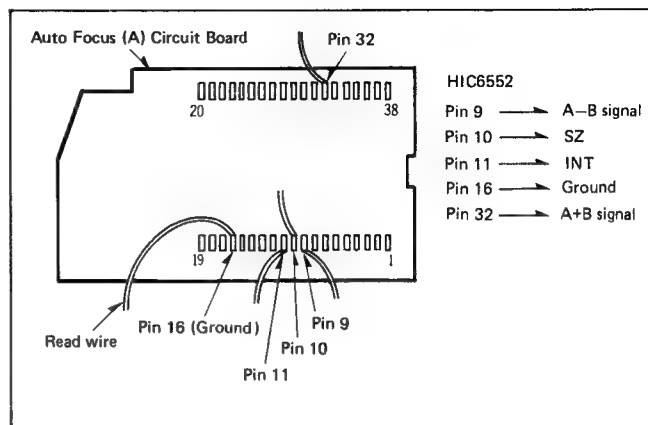

Fig. 5 Auto Focus (A) Circuit Board
1. Remove the A.F Cover (A) and (B) (refer to section "Removal of Auto Focus Lens Side Covers").
2. Connect the read wire to pin 9, 10, 11, 16, 32 of HIC6552 on Auto Focus (A) Circuit Board. (Refer to Fig. 5.)